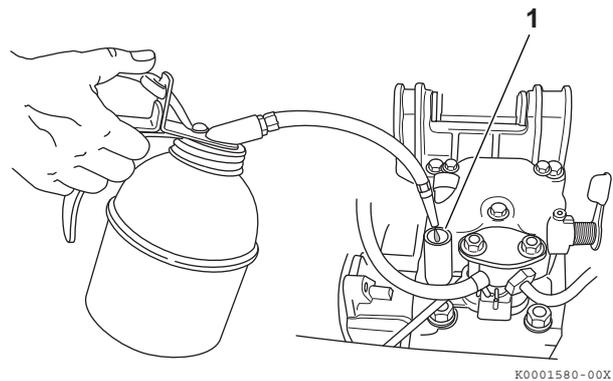

Figure 2
- (b) Add 2 cc of engine oil to the oil port (**Figure 2, (1)**).